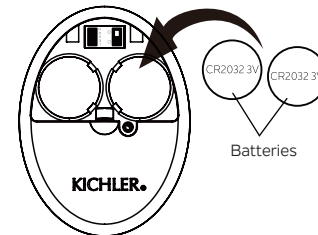

Fig. 28
Step 2. To make fan operational, install two 3V CR2032 batteries (included). The batteries should be installed with the positive (+) side up. Replace with CR2032 batteries when necessary. (Fig. 28)